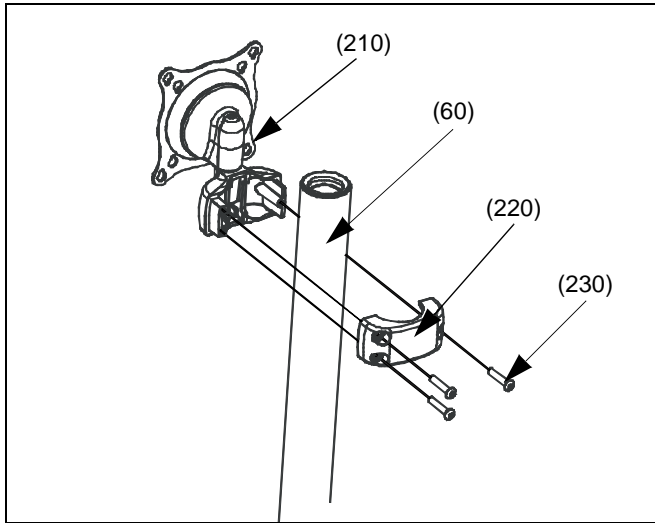

Figure 3: Mount Centris Head with Pole Clamp
8. Place front pole clamp with Centris Head (210) against pole in approximate mounting location.
9. Place three BHCS (230) into rear pole clamp (220) and place against pole aligning with front pole clamp (210). (see Figure 3)
10. Secure rear pole clamp (220) to front pole mount (210) and pole by tightening three BHCS (230) using 5/32" hex key (120). (see Figure 3)